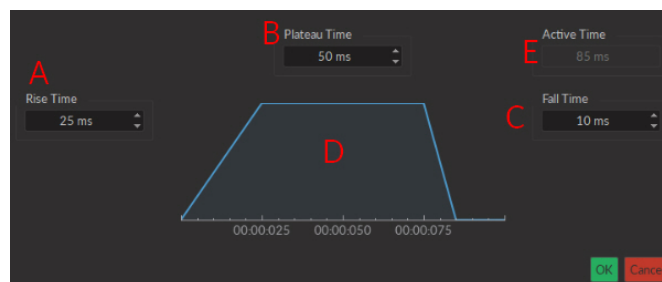

Figure 4.17: Light Source Smoothing Edge(s) Window
4. The **Smoothing** option is used to change the pulse slope in square pulse sequences. The **Edit Edges** button opens the **Smoothing Edge(s)** window (Fig. 4.17).